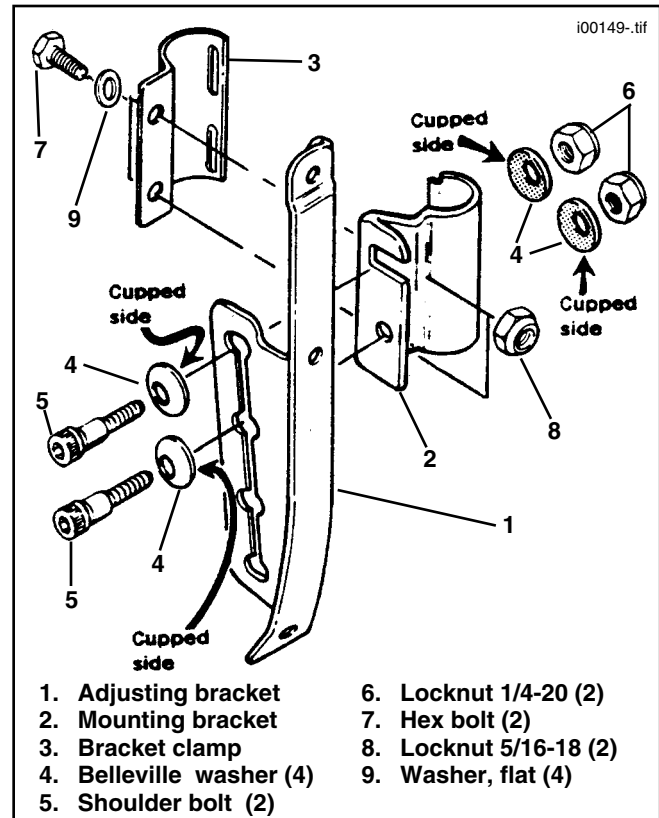

Figure 1. Windshield Hardware - Right Side
1. See Figure 1. Loosely install the new windshield right-mounting bracket (2) and a windshield mounting bracket clamp (3) as shown onto right-front fork tube using two 5/16 - 18 x 3/4 in. hex flange bolts (7), two chrome washers (9) and two 5/16 - 18 locknuts (8).
2. Position the windshield right-adjusting bracket (1) (part of windshield assembly) over the outboard side of the new windshield right-mounting bracket (2).